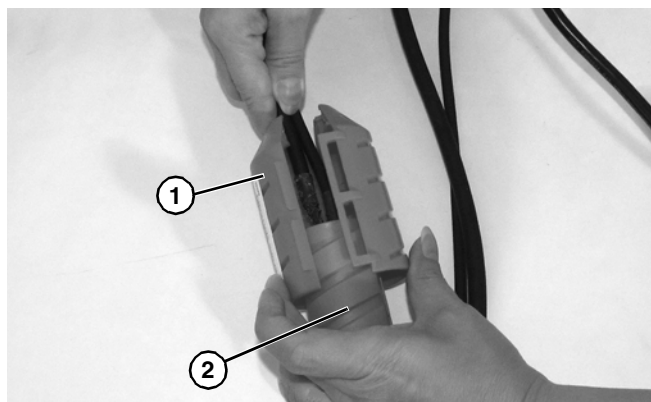

Figure 12
6. Install outer cord cover (Figure 12, item 1) over inner cord cover (Figure 12, item 2).